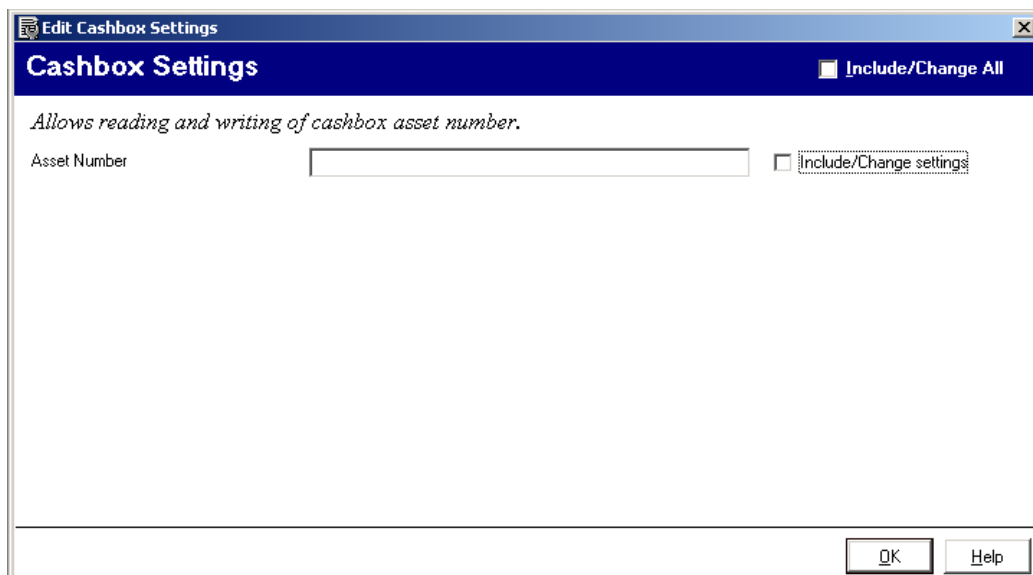

fig.5
6. Select the include/change box and type in the machine asset number and select OK. See fig. 5
Note: The machine's asset number will now be assigned to that particular cashbox and will be referred to as the cashbox asset number shown in fig.5.